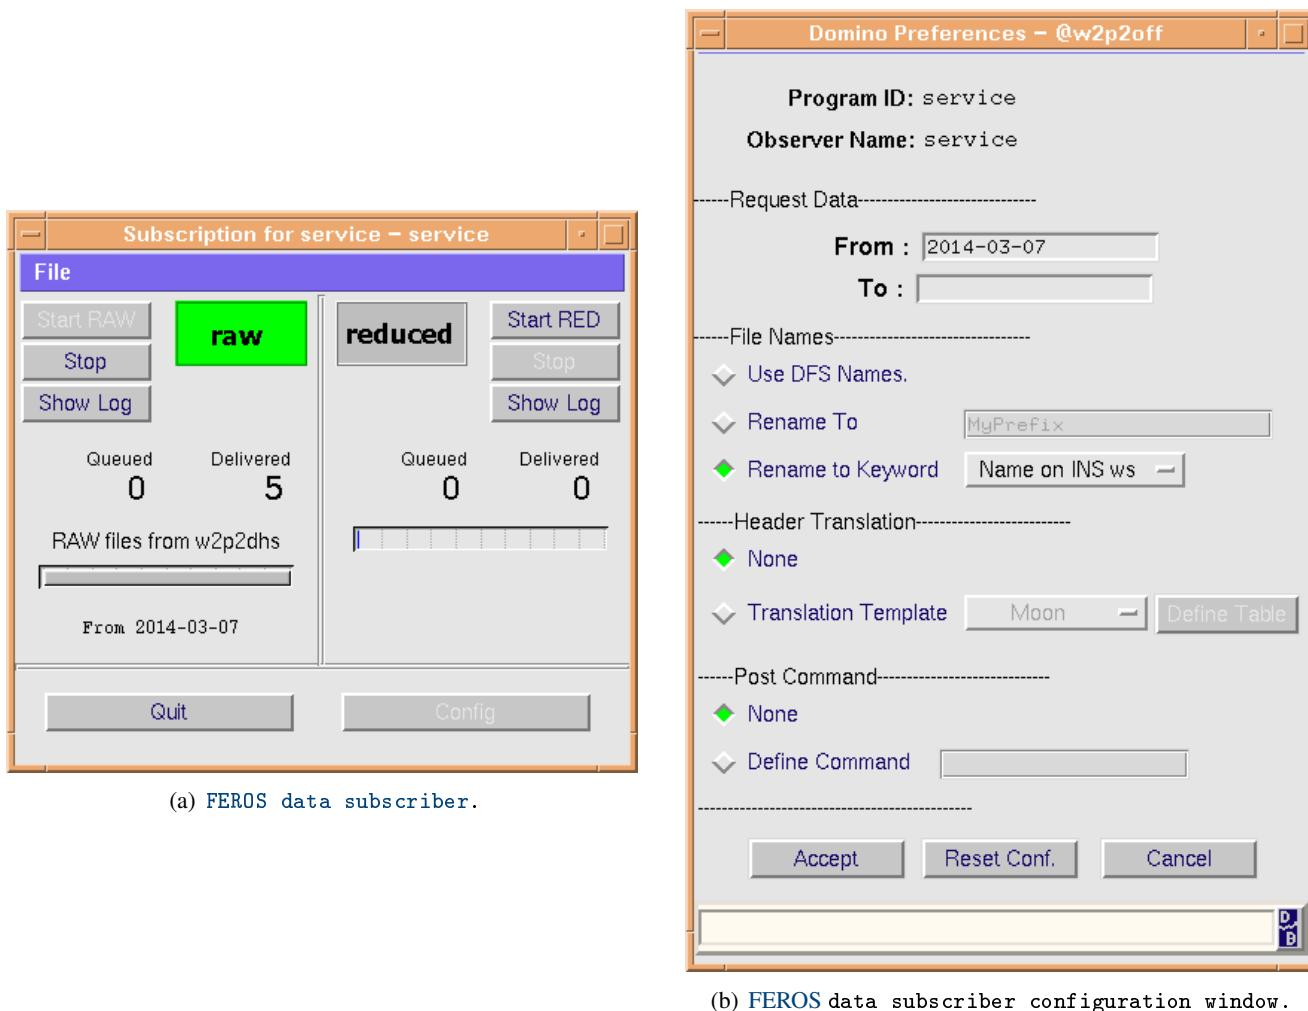

Figure 10.3: FEROS data subscriber.
- A. Stop **data subscriber** and **DRS** at the **DRS** computer (Fig. 10.3(a), p. 87).
- C1. Left click start **data subscriber** and configure it (Fig. 10.3(b), p. 87).